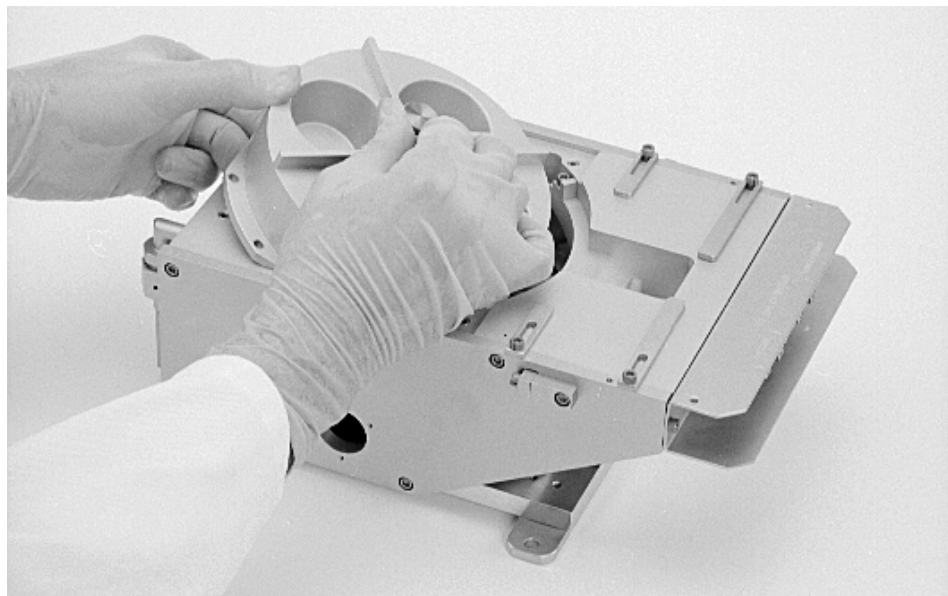

Figure 3-8. Removing the crucible from the source. Note angle of withdrawal.
- (c) Pull the crucible clear of the coil housing by angling it upward and backward at the same time, as shown in Figure 3-8. Be very careful at this point not to scrape the crucible's O-ring-sealing surface on the water baffle.
| 2 | Angle the crucible into the position shown in Figure 3-8. Then lower its rear end so that its bottom surface is horizontal, and lower it straight down onto the O-ring. |